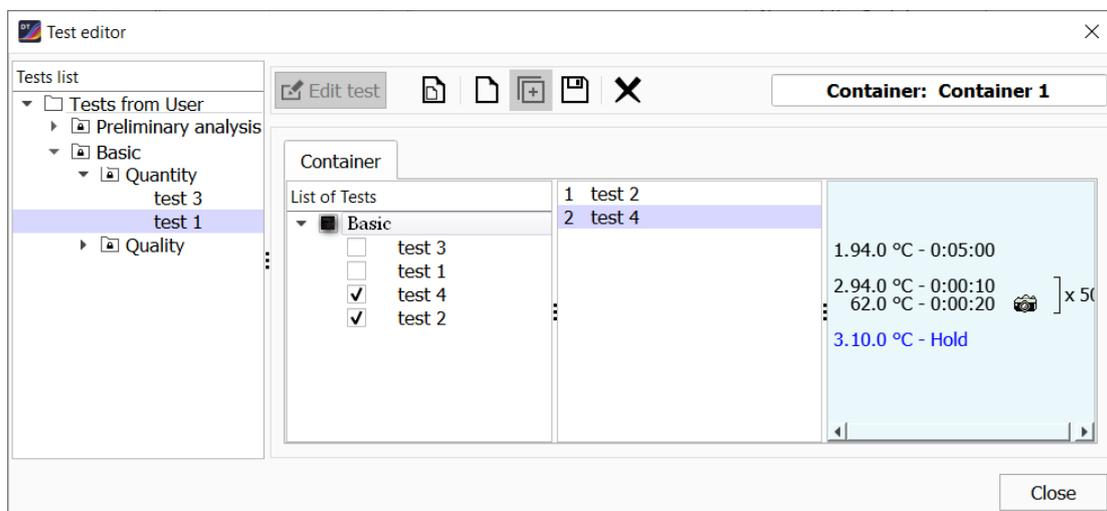

Figure 6 – Selecting tests in the container
3. Select the tests to be included in the container (fig. 6).